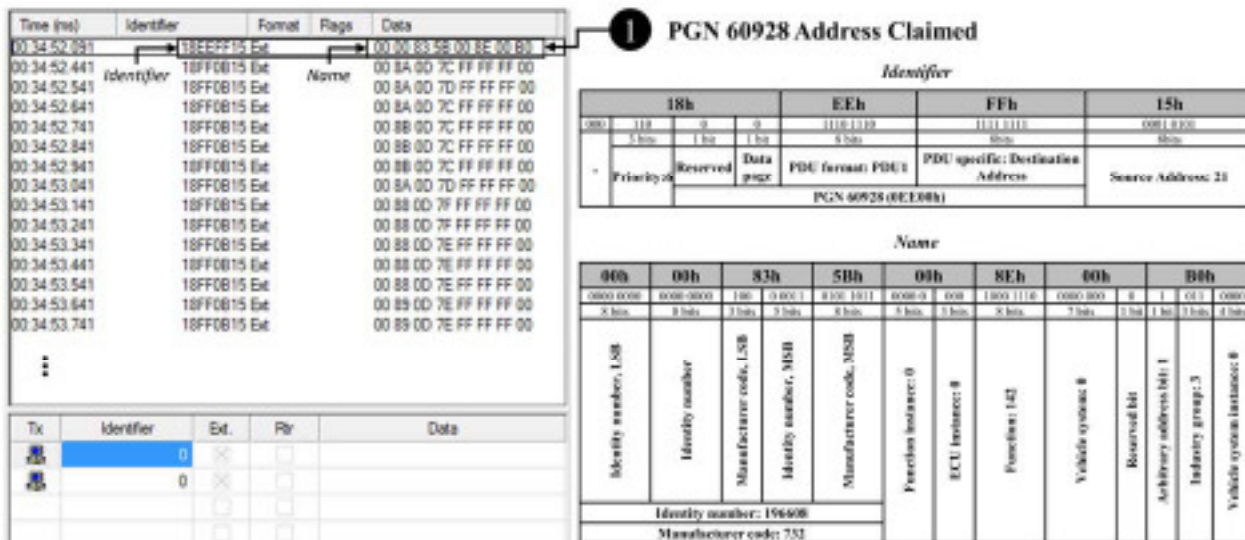

Fig. 2: Example: Address Claimed message
- When the sensor is turned on, it sends an Address Claimed message according to PGN 60928 as shown in the example of Fig. 2 (page 10). The message is composed of: